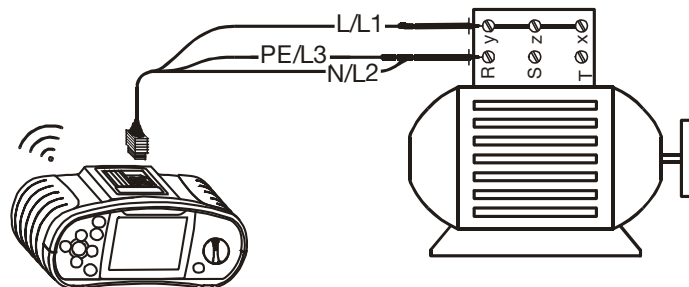

Fig. 5.10: Connection of universal test cable
- Step 3** Connect test cable to the item under test. Follow the connection diagram shown in figures 5.10 and 5.11 to perform **Continuity** measurement. Use the **Help** function if necessary.